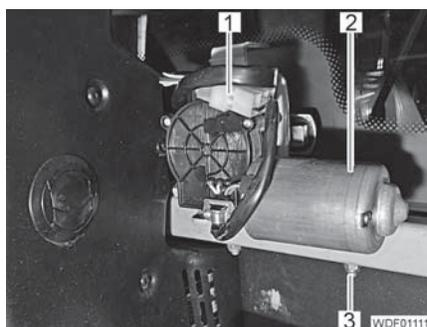
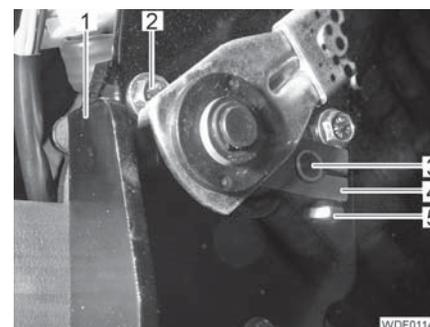

Fig. 425 Electrical wire and holder
Fig. 426 Windshield wiper motor attachment
- Disconnect the plug (Fig. 425,1).
- Unscrew the 2 nuts (Fig. 425,3).
- Undo the screw (Fig. 426,5).
- Pull the rod (Fig. 426,4) off the shaft (Fig. 426,3).
- Unscrew the 3 screws (Fig. 426,2).
- Remove the windshield wiper motor (Fig. 425,2).
- Insert the windshield wiper motor (Fig. 425,2) into the holder (Fig. 426,1).
- Screw in and tighten the 3 screws (Fig. 426,2).
- Connect the plug (Fig. 425,1).
- Attach the rod (Fig. 426,4) horizontally onto the shaft (Fig. 426,3).
- Tighten the screw (Fig. 426,5).
- Place the holder (Fig. 426,1) into position.
- Screw the 2 nuts (Fig. 425,3) onto the bolts and tighten.